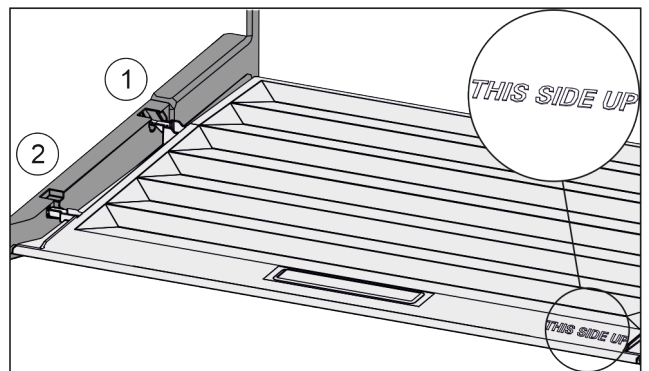

Fig. 105
- ▶ Insert the lip of the cover over the opening of the rear bracket Fig. 105 (1) and click into place Fig. 105 (2).